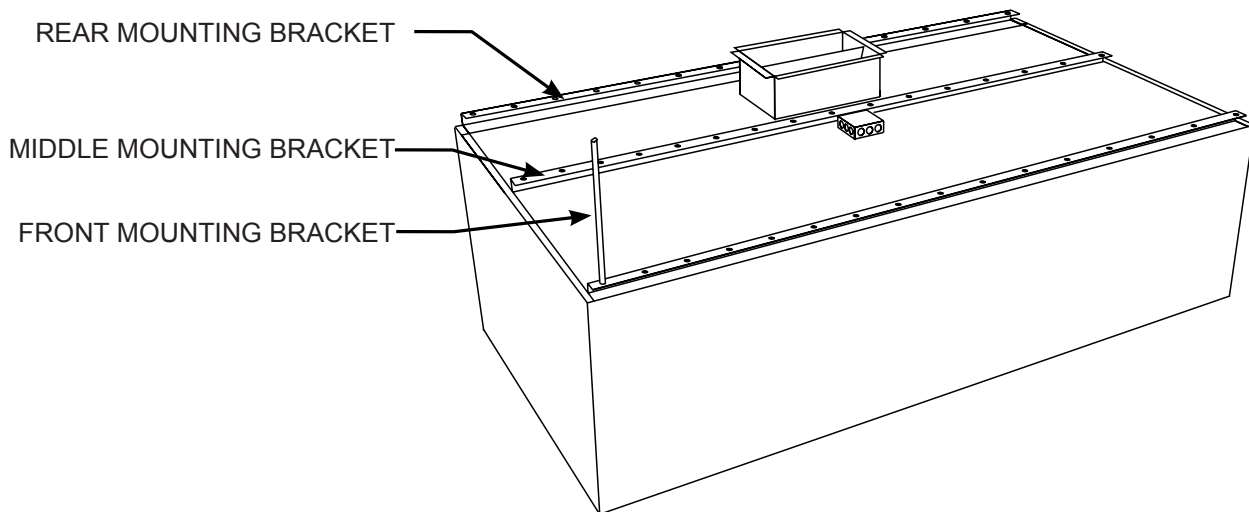

Figure A-2-1
3. Each Ventilator section has a full length Rear Mounting Bracket at the rear for bolting to the wall and/or hanging from the overhead. There are two other full length hanging brackets; the Middle Mounting Bracket and the Front Mounting Bracket for hanging from the overhead (refer to Figure A-2-1). All three Hanging Brackets have pre-punched holes centers for hanging from the overhead. Hanging rods to be supplied by the Ventilator installer. If the rear bracket is used for bolting to the wall the holes must be drilled by the installing contractor at a support point in the wall. Refer to Table T-A-2-1 for minimum number of mounting points.